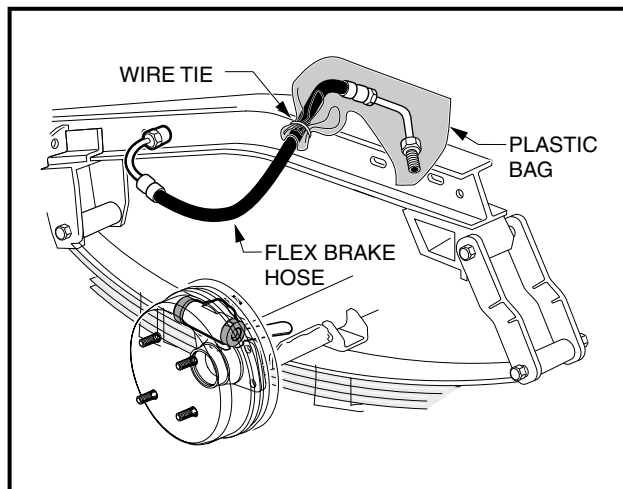

Figure 16b-27 Cover Brake Hose Fitting
9. Using a hydraulic jack placed under the transaxle (**Figure 16b-30, Page 16b-15**), raise the vehicle and place jack stands, set at approximately 17-1/2 inches (44.5 cm) in height, under the frame as shown (**Figure 16b-31, Page 16b-15**).